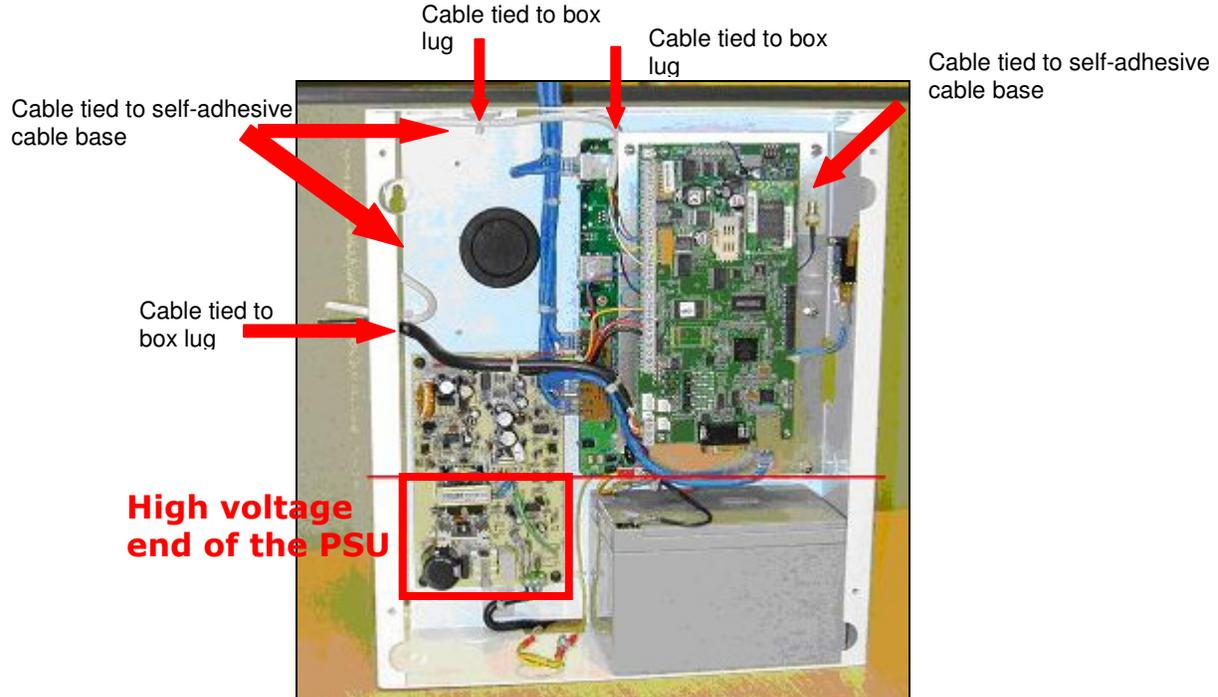

Figure 1: A correctly wired GW8600 SMG
Figure 1 shows the high voltage end of the PSU in the GW8600 SMG and an example of the correct wiring of the unit. We recommend that you tie cables to the points that are shown in Figure 1. If you cannot support the cables at the points that are shown in Figure 1, ensure the wiring is supported from another appropriate point or by an appropriate group of cables.
2. Insert the SIM card into the SIM card holder. The SIM card holder is next to the connection for the antenna. Figure 1 shows the SIM card holder.